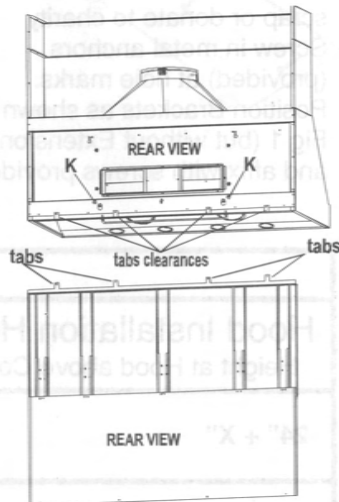
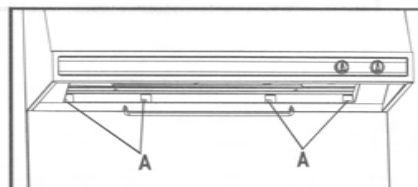

Fig. 3
Fig. 4
- 1) From inside the hood loosen screws K one turn (see fig 3)
- 4) Slide the Backsplash up so that Tabs go through proper clearances on the rear of the hood (see Fig 3). From inside the hood, affix the Backsplash at each Tab location with sheet metal screws (provided) (see Fig 4)
- 5) Re-tighten screws K (see Fig 3). Re-tighten sheet metal screws at the Tabs